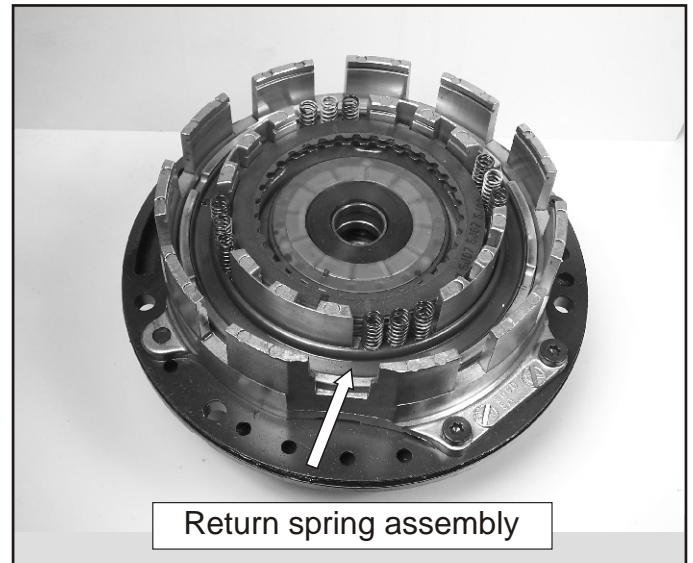

Figure 100
49. Remove the return spring assembly as shown in Figure 100.